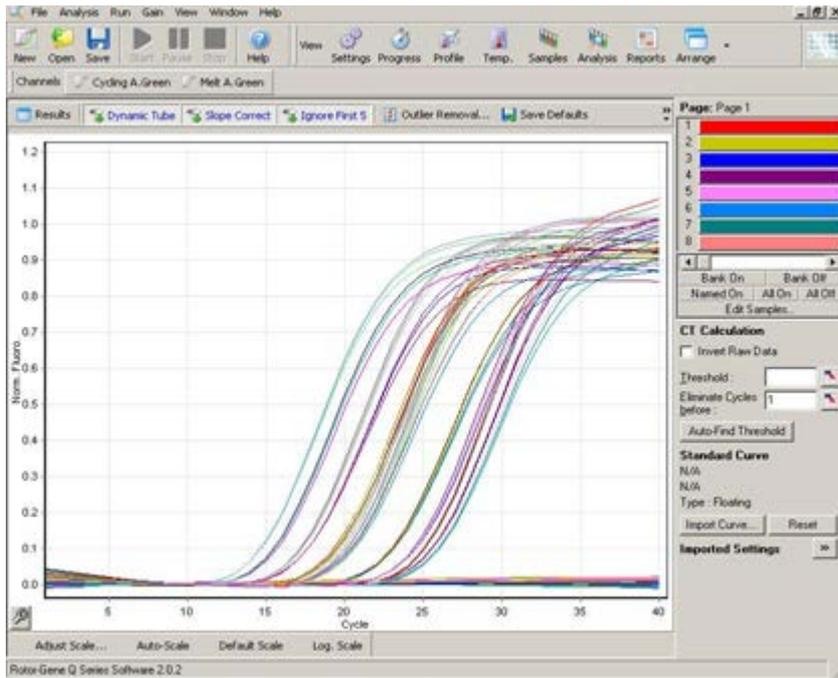

Figure 2. Setting the baseline.
20. To define the "Baseline" (Figure 2):